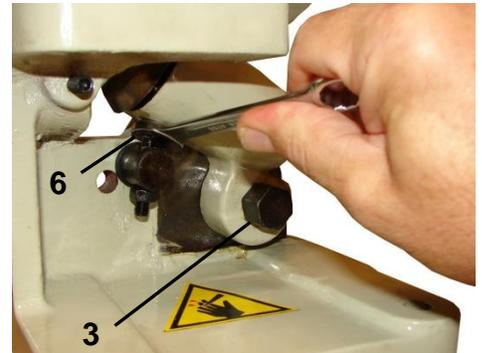

figure 5
1. To raise or lower the height of the bottom cutter, turn the hex bolt #6 shown in (fig. 5).